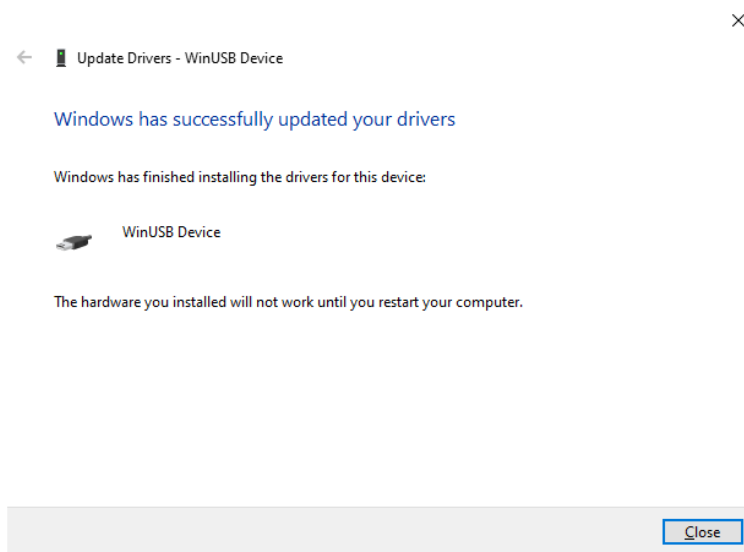

Fig. 10.12: USB driver installation completed.
- Windows informs the driver software is successfully installed (see Fig. 10.12).